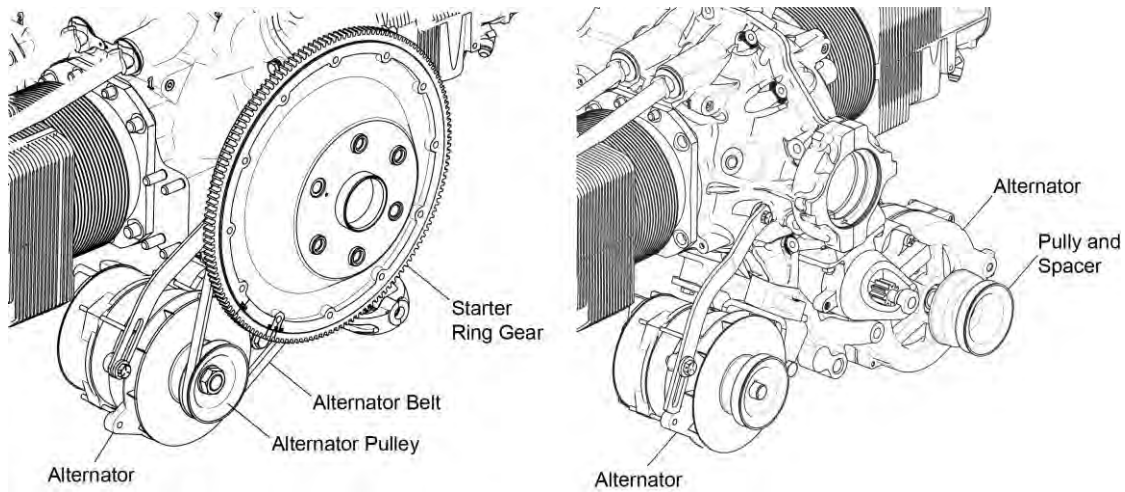

Figure 1
- A. Examine the alternator belt(s) (Figure 1) for any cracks, damage, or wear.